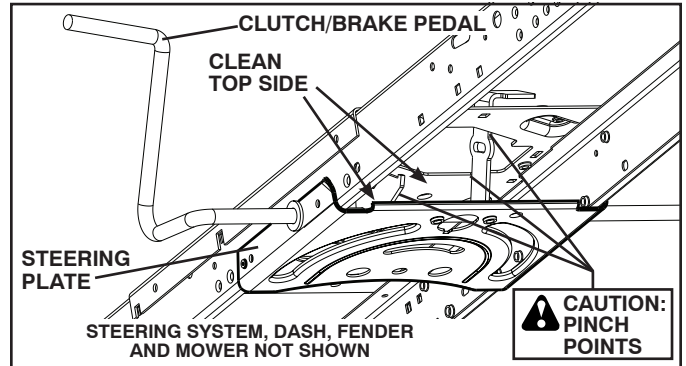

Fig. 31
**CAUTION: Avoid all pinch points and movable parts (See Fig. 31)**